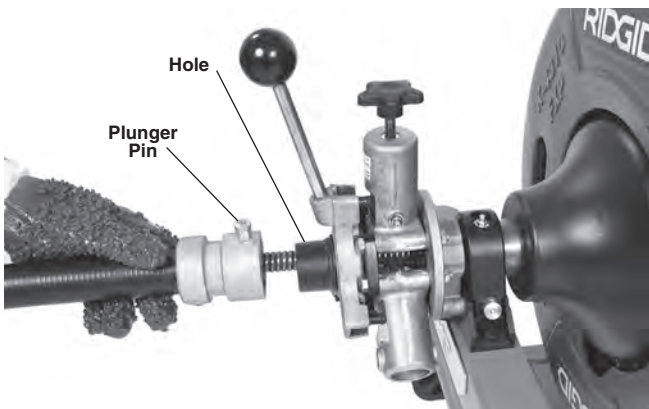

Figure 10 – Attaching Front Guide Hose
3. Pull plunger pin head up and place adapter over the mounting collar on the AUTOFEED unit. Make sure plunger pin locks into the hole in the mounting collar. (*Figure 10*).